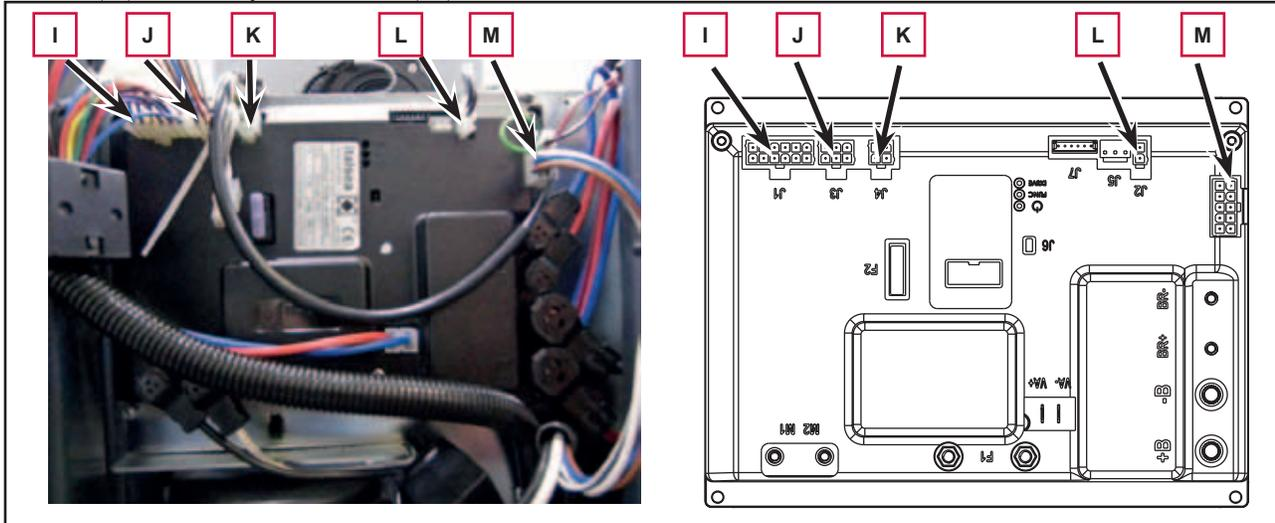

Figure 13
8. Disconnect the following connections sequentially (Figure 13):
- (I) Key, accelerator and steering wheel electronic board connection (J1).
- (J) Squeegee actuator, beacon light and driver’s seat sensor connection (J3).
- (K) Battery charger connection (J4).
- (L) Brush deck actuator connection (J2).
- (M) Accessory connection (J8).